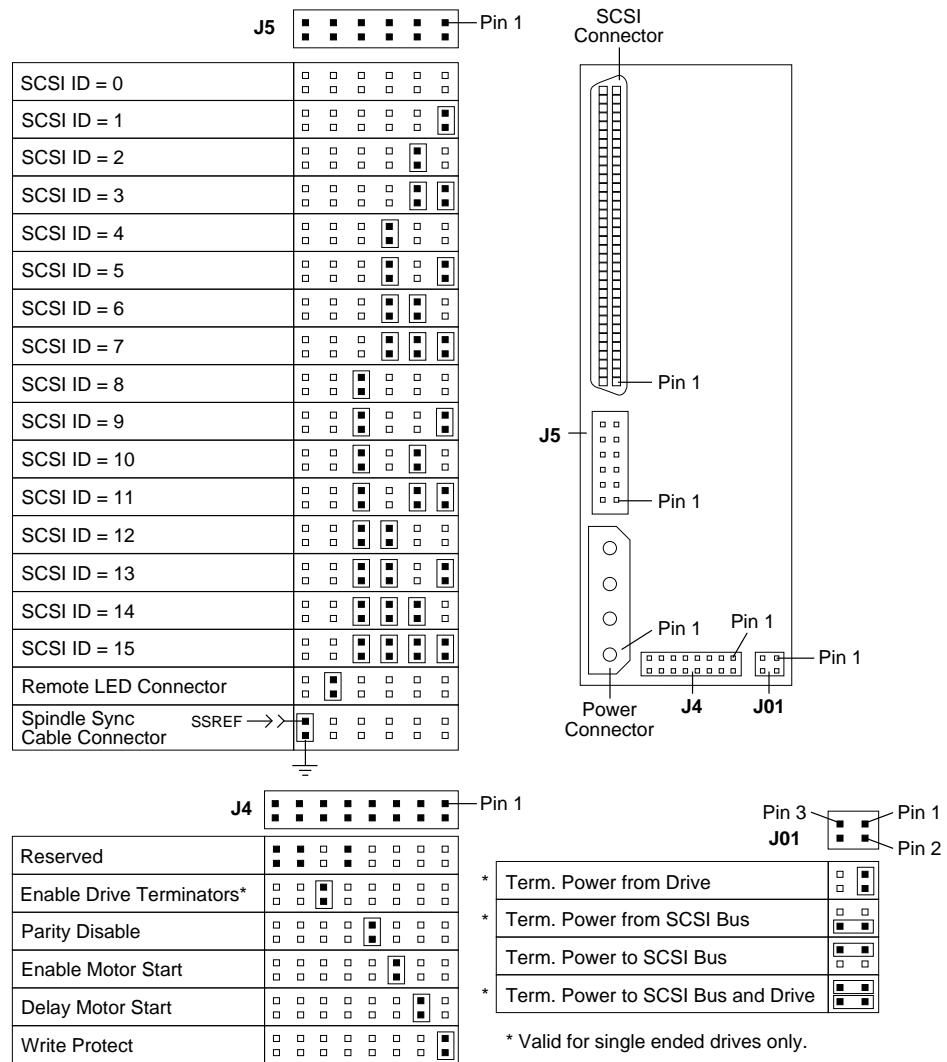
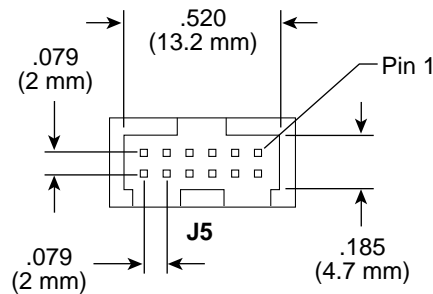

Figure 14. Barracuda drive ID and option select headers
Figure 16. J5 configuration select header specification
Figure 14 illustrates the drive's ID and option select jumper connectors.
** See Figure 14 to set the SCSI ID.
The dimensions of the J5 connector mounted on the main PCB to interconnect the drives are shown in Figure 16. It is a 12-pin, 6-position gold 2 mm header type connector. Only pins 11 and 12 are used for connecting the reference index signal cable, as shown in Figure 14. Pin 11 is SSREF+ and pin 12 is ground.